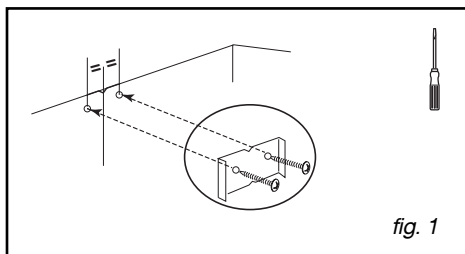

fig. 1
(fig. 1)
– Draw a horizontal line 70 cm minimum from the cook top (fig. 1).
– Draw a vertical line (B/fig. 1) on the wall that is centred over the cook top and that extends from the horizontal line drawn in the previous step (A) to the ceiling.
– Cut the drilling template by following the dotted lines to obtain two parts, C1 and C2 (fig. 1).
– Place the C2 template (fig. 1) on the wall, superimposing the line that represents the hood's axis over vertical line B (fig. 1) drawn in a previous step.
– Place the C1 template (fig. 1) against the wall flush with the ceiling.
– Screw in the top two screws for the hood (D/fig. 1), leaving 5 mm sticking out from the wall.
– Using the two screws (fig. 1), attach the metal chimney bracket against the wall, flush with the ceiling for support.
– Remove the back-flow valve (fig. 1).